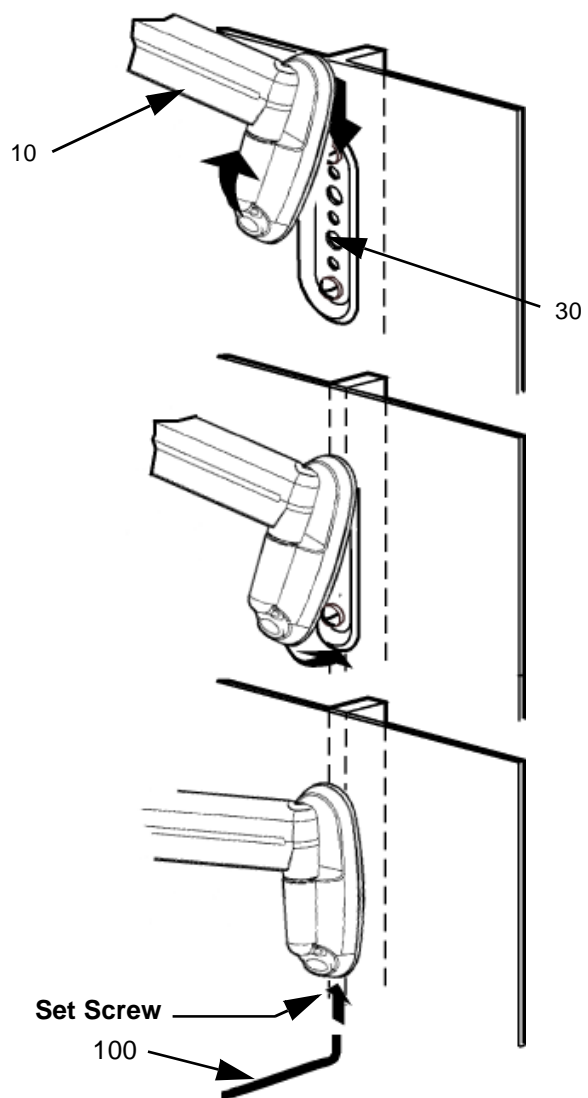

Figure 3: Attach Mount to Wall Bracket
1. Align the top of the mount (10) with the top of the wall bracket (30). Push the bottom of the mount against the bottom of the wall bracket until the mount fits snugly in place. See Figure 3.
2. Using the 5/32" hex wrench (100), secure the mount to the wall bracket by tightening the set screw (110) (see figure 3). Ensure set screw engages *back* side of bracket to properly secure mount.